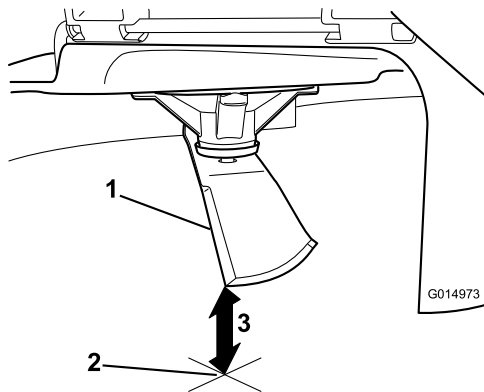

Figure 48
3. Measure from the tip of the blade to the flat surface (Figure 48).